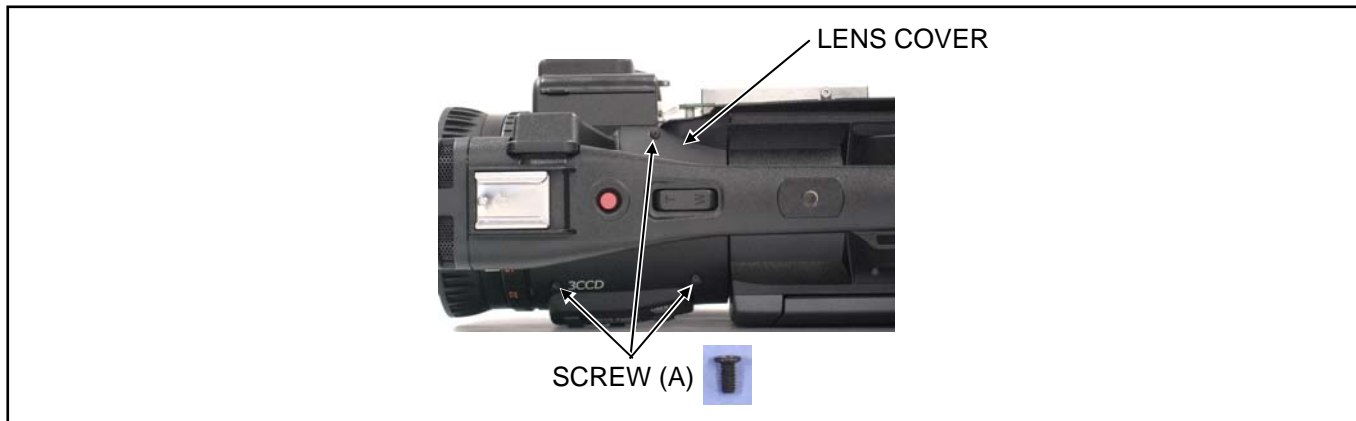

Figure 9-1
2. Unscrew the 3 screws (A) and remove the Lens Cover as shown in figure 9-1.